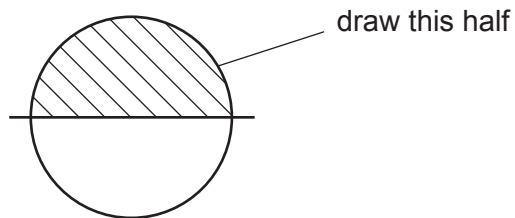

Fig. 2.2
- (a) (i) Draw a large plan diagram of the region of the root section shown by the shaded area in Fig. 2.2.